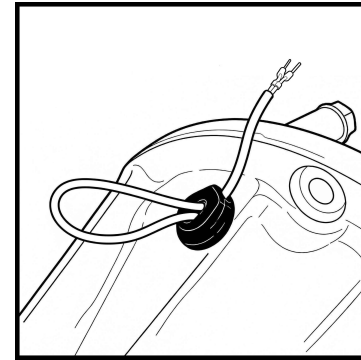

Fig. 27
3.20 Insert the rubber seal into the hole in the differential carrier. Remove any excess gasket maker. (Fig. 27)